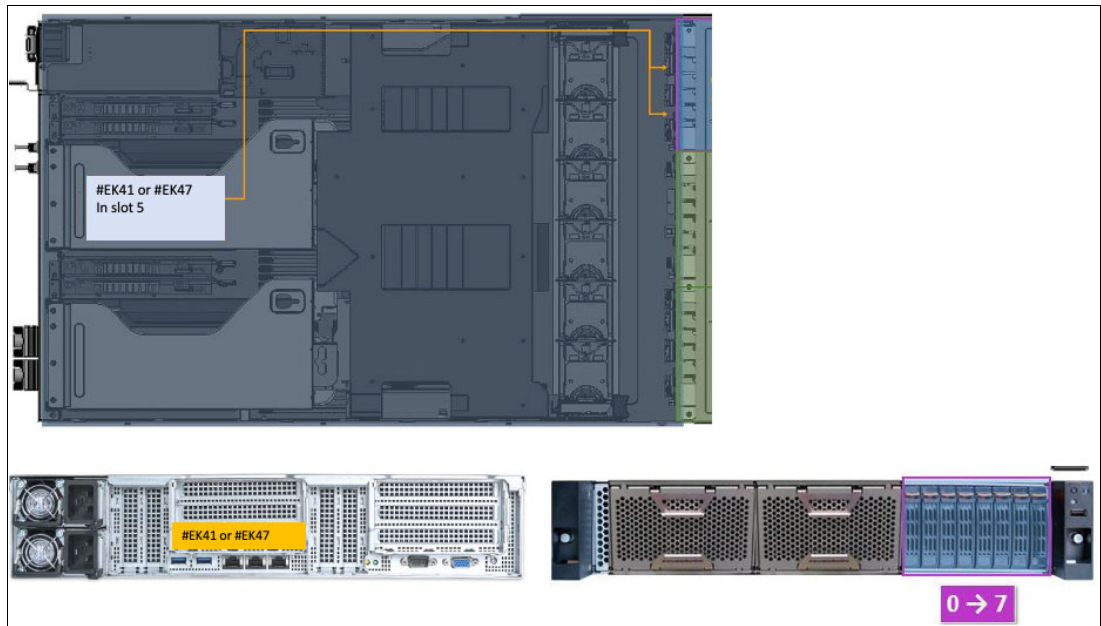

Figure 1-17 One SAS/SATA HBA and one SAS/SATA drive backplane
- ▶ One FC EK41 or FC EK47 HBA in PCIe slot 5, and one 2.5-inch SAS/SATA drive backplane (FC EK36) (Figure 1-17)